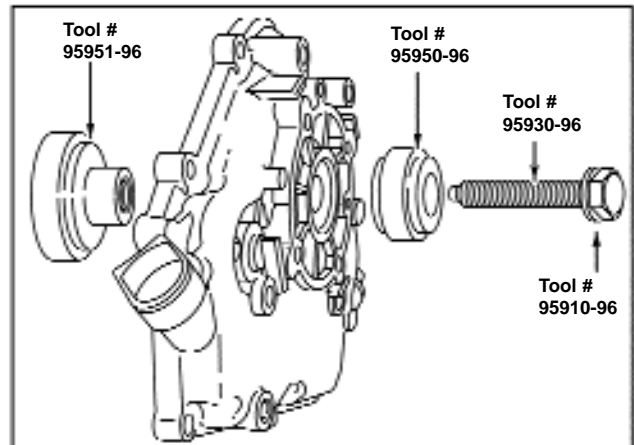

Figure 140 - Installing Bearing - PTO Side
5. Insert screw through pilot and thread into support. Tighten screw until ball bearing is seated, Figure 140.